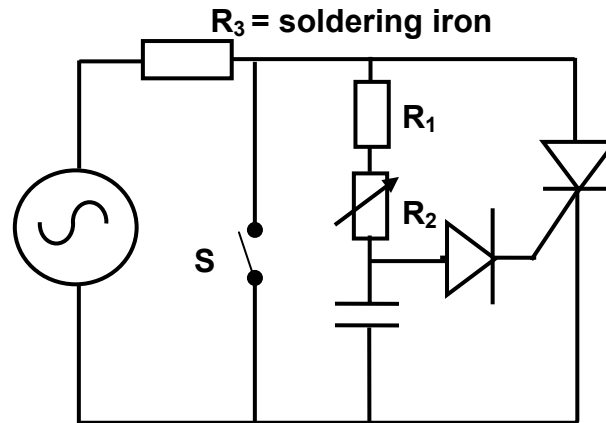

FIGURE 6.2: TEMPERATURE CONTROL
- 6.4 The circuit diagram in FIGURE 6.2 is connected to a 220 V/50 Hz supply. The circuit makes use of a SCR to control the temperature of the soldering iron indicated as resistor R_3 .